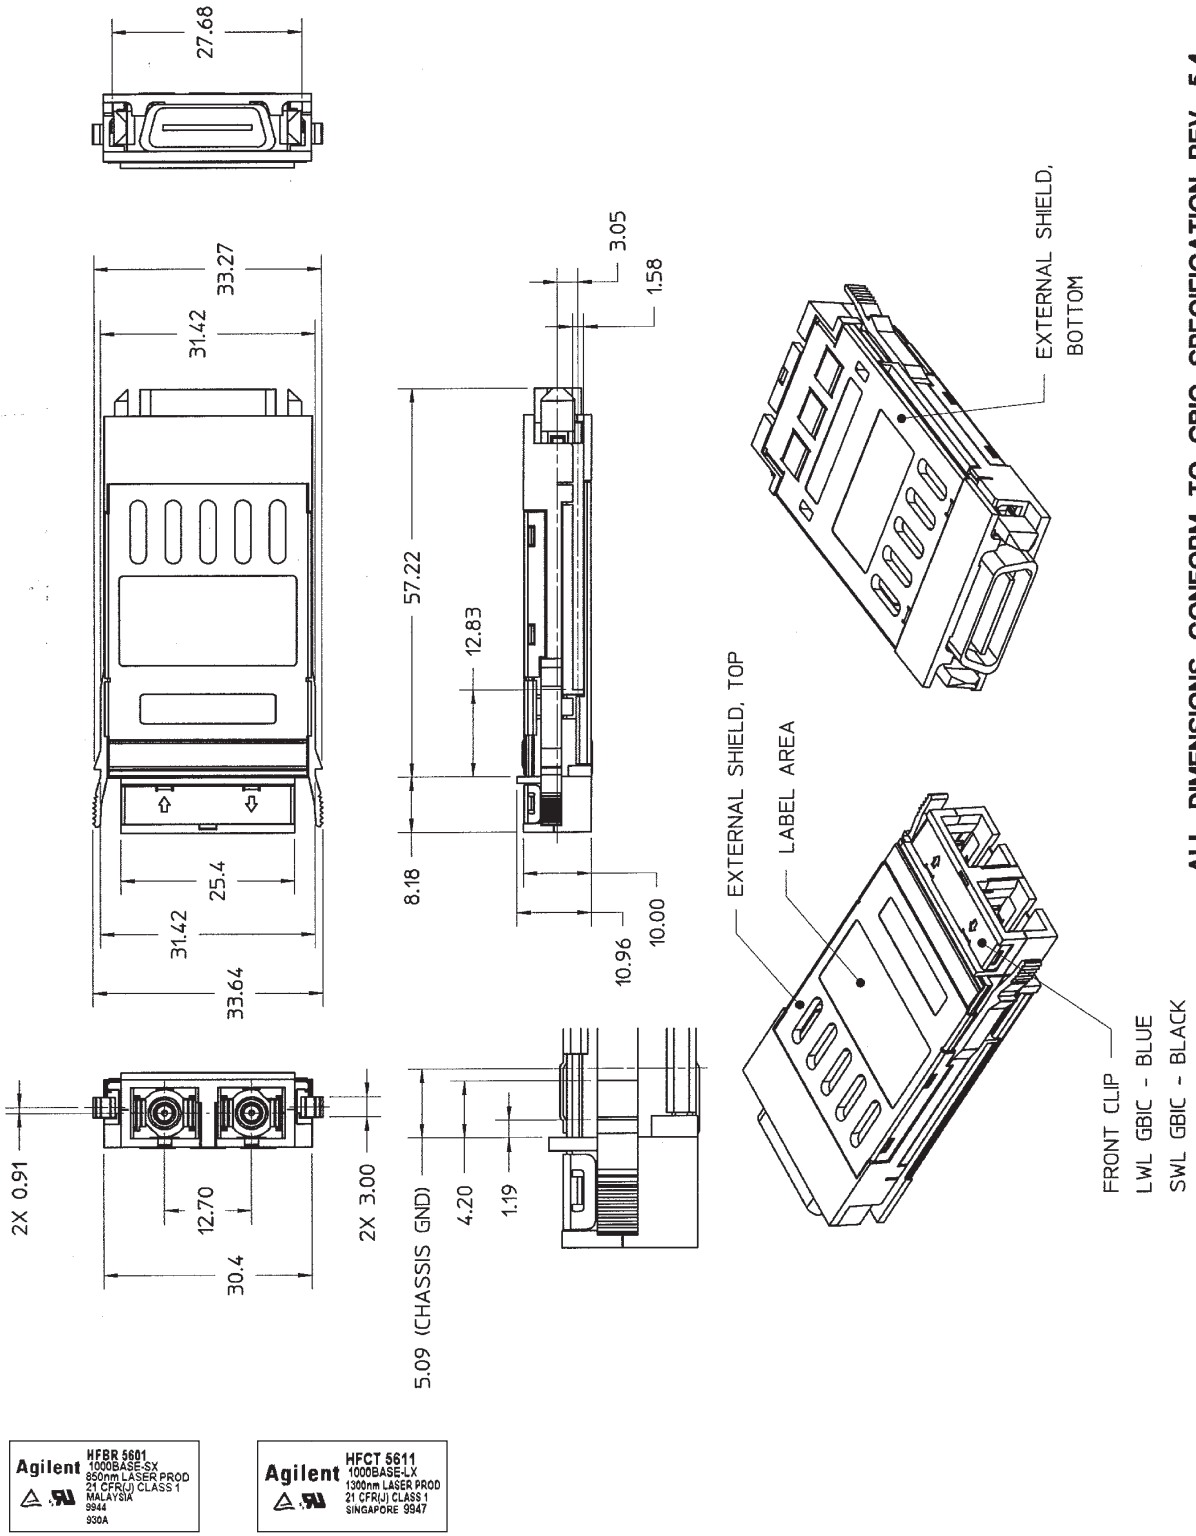

Figure 1. Outline Drawing of HFBR-5601 and HFCT-5611.
An outline drawing is shown in Figure 1. More detailed drawings are shown in Gigabit Interface Converter specification Rev. 5.4.
- See Figure 1 for measurement point.